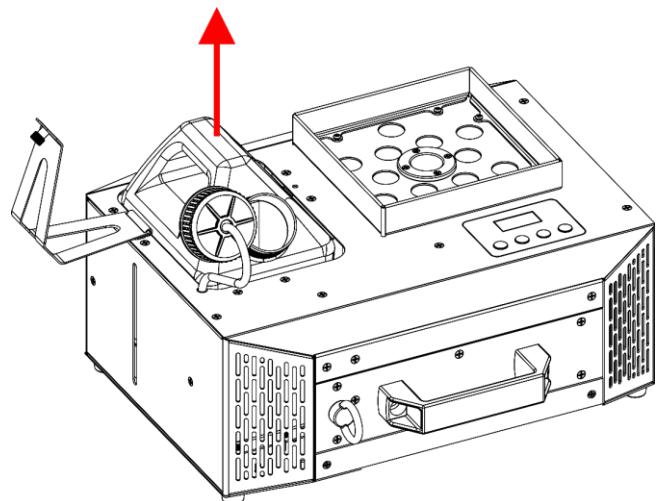

Fig. 31
- 05) Take out the **fluid tank (02)**, as shown in Fig. 31.